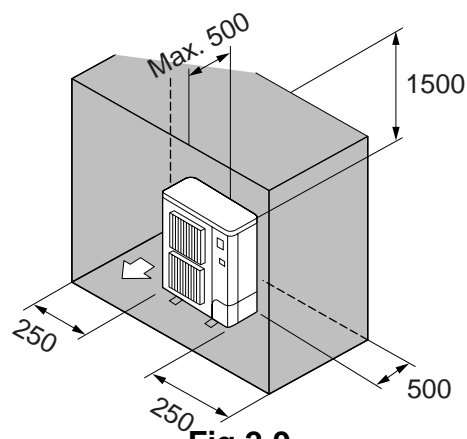

Fig.2-9
- Obstacles at rear, sides, and above only (Fig. 2-9)